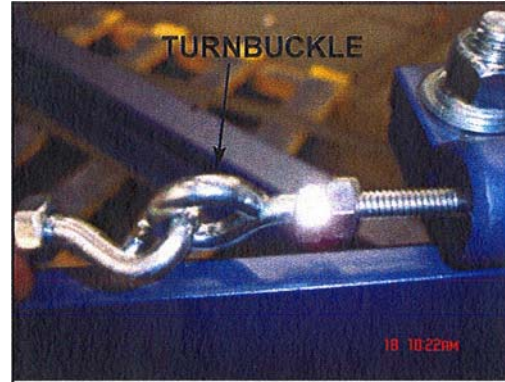

Figure 24
13. After carriage is hanging from lift chains, back safety pin retaining nuts all the way to the "eye" of eye bolt. Lock into place. The safety pins are now ready to actuate if chains break. See Figure 24. Pins should stick past housing approximately 3/8". Adjust turnbuckle, if needed. See Figures 24 and 25.